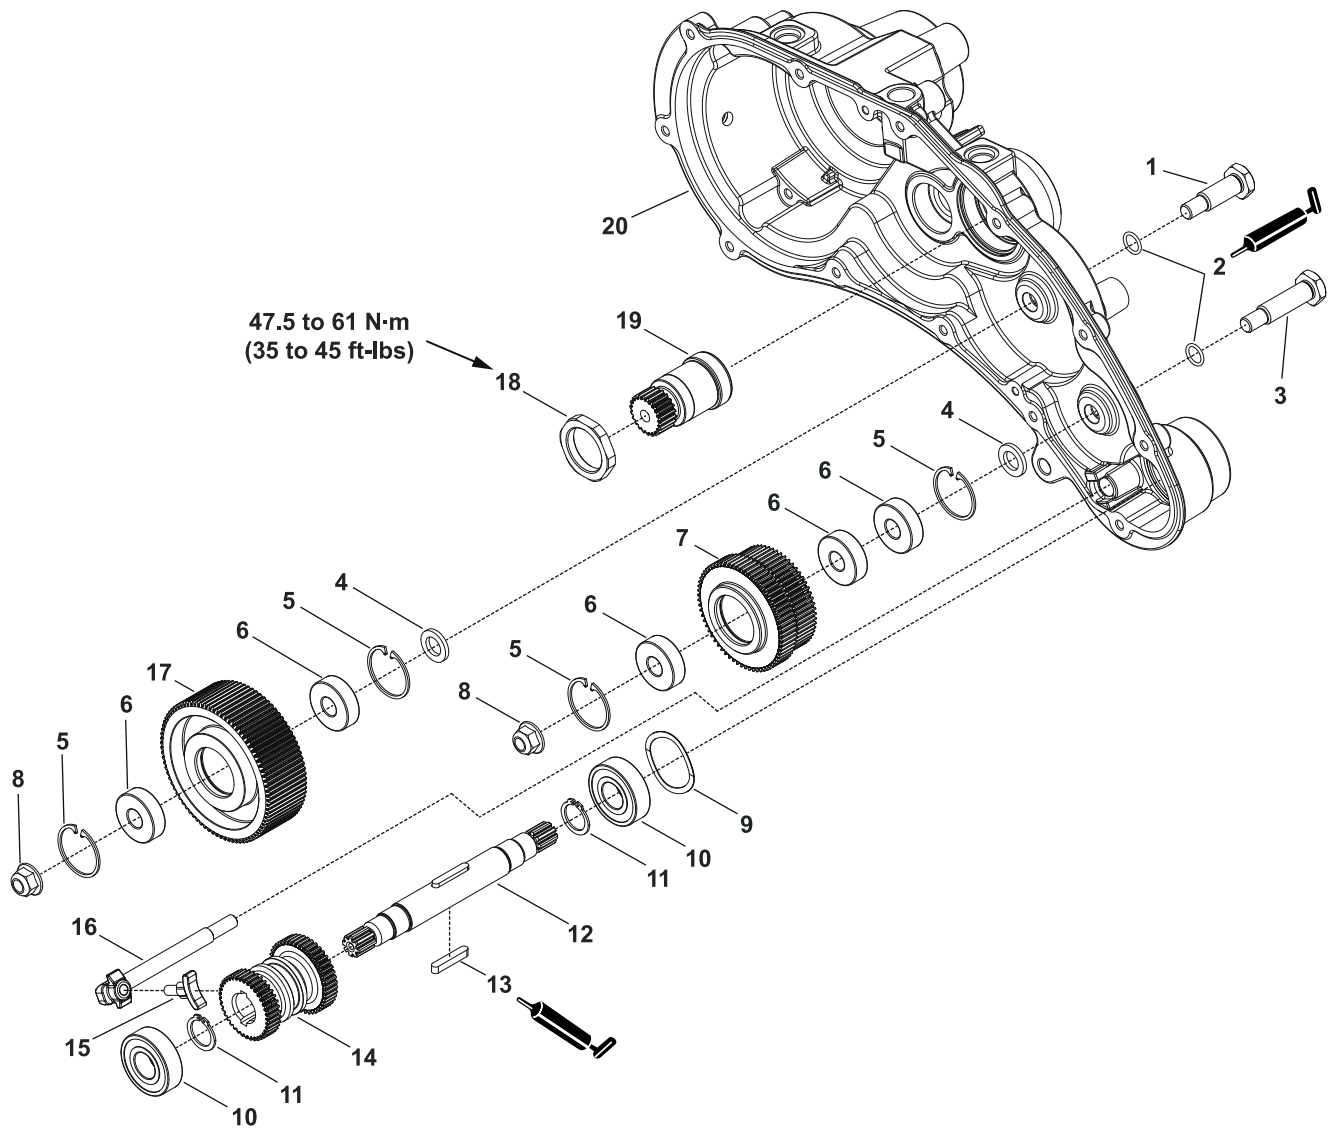

Figure 26
14. Slide and remove the reel clutch actuator (item 16 in Figure 26) from the transmission housing assembly (20). If necessary, remove the reel clutch shoe (15) from the reel clutch actuator (16).
15. Remove the reel drive shaft assembly (12), ball bearing (10) and wave spring (9) from the transmission housing assembly (20). If necessary, disassemble the drive shaft assembly (12) as follows:
- A. Use a press to remove the ball bearings (10) from the reel drive shaft (12). Discard the bearings (10).
- B. Remove the retaining ring (11) from the reel drive shaft (12).
15. Insert the input shaft (item 19 in Figure 26) into the transmission housing assembly (20) and secure with the thin lock nut (18). Torque tighten the thin lock nut to **47.5 to 61 N·m (35 to 45 ft-lbs)**.
16. Use a press to install the 2 new ball bearings (item 6 in Figure 26) into the spur gear (17) and secure with the 2 retaining rings (5).
17. Apply a coat of grease to the O-ring (item 2 in Figure 26) and slide the O-ring onto the short bearing pin (1). Install the spur gear assembly (17) and bearing spacer (4) onto the transmission housing assembly (20) and secure with the short bearing pin and nut (8).
18. Use a press to install the 3 new ball bearings (item 6 in Figure 26) into the spur gear (7) and secure with the 2 retaining rings (5).
19. Apply a coat of grease to the O-ring (item 2 in Figure 26) and slide the O-ring onto the long bearing pin (3). Install the spur gear assembly (7) and bearing spacer (4) onto the transmission housing assembly (20) and secure with the long bearing pin (3) and nut (8).
20. Insert the square keys (item 13 in Figure 26) into the reel drive shaft (12) and apply a coat of grease to outside of the keys.
21. Slide the slider spur gear (item 14 in Figure 26) onto the reel drive shaft (12) and secure with the retaining rings (11). Press the new ball bearings (10) onto the reel drive shaft (12).
22. Install the wave spring (item 9 in Figure 26) and reel drive assembly (14) into the transmission housing assembly (20).
23. Insert the reel clutch shoe (item 15 in Figure 26) into the reel clutch actuator (16). Slide the reel clutch actuator (16) into the transmission housing assembly (20).